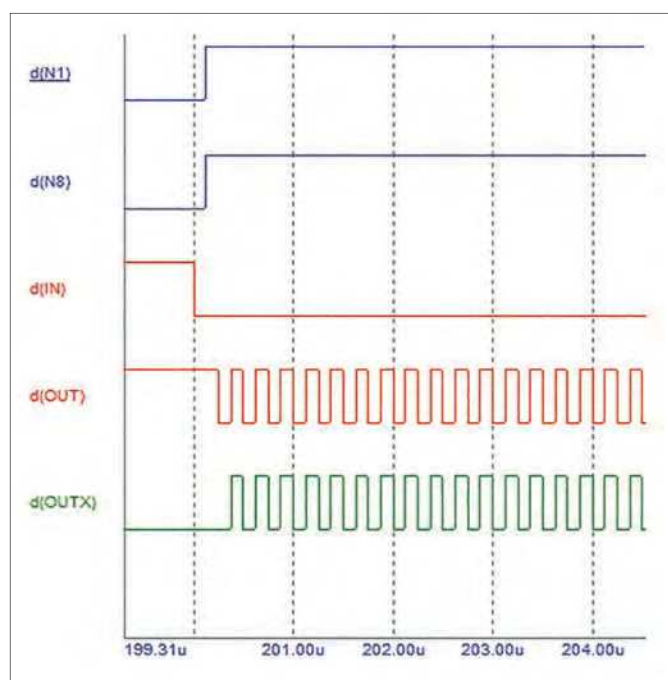

Fig.14. Detailed look at the oscillation in Ken's circuit.
The reason that the Micro-Cap 12 simulation of Ken's circuit shows an oscillation is because the inputs to an SR flip-flop can both change from 0 to 1 simultaneously and by default the simulation uses exactly equal delays for all the gates. Consider the SR flip-flop formed by X2 and X3. When the clock is 0 the set and reset inputs are both 1 via the inverter X8 and the NAND gate X1, which are driven by the clock. When the clock is 1 the inputs to the SR flip-flop are $\bar{S} = OUTX$ (via X4 and X1) and $\bar{R} = 0$ (via X8). If OUTX is 0 when the clock changes from 1 to 0 the flip-flop's inputs both change from 0 to 1 simultaneously. This initiates an oscillation due to the equal delays for X2 and X3, as described above. This situation is shown in Fig.14. This is a zoom-in on the results shown in Fig.2 with additional traces to show the outputs of gates X1 (N1) and X8 (N8). We see the clock (IN) changing from 1 to 0 followed by N1 and N8 both changing from 0 to 1 simultaneously one gate delay later. The oscillation starts in the SR flip-flop formed by X2 and X3 after another gate delay (trace for OUT).